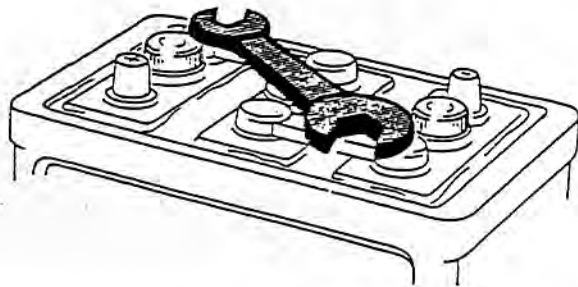

Fig. 54-13/1
**Caution!** The oxyhydrogen gas given off is explosive. No tools or other metal objects must be placed on the battery because of the danger of shortcircuiting! (Fig. 54-13/1).